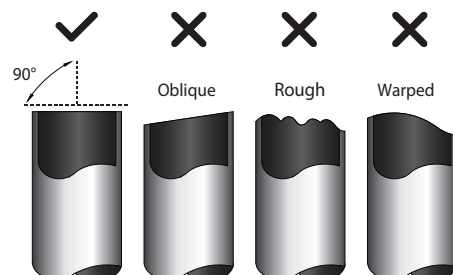

Fig. 6.3
1. Make sure that the pipe is cut at a perfect 90° angle. Refer to Fig. 6.3 for examples of bad cuts.